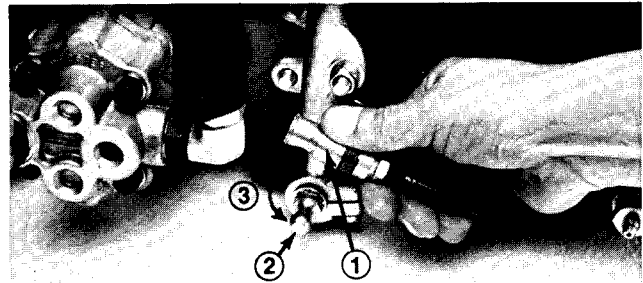

Figure 22
3. Slide the sleeve back on the ball joint and disconnect the pull arm from each side of the cutting unit (Fig. 22).